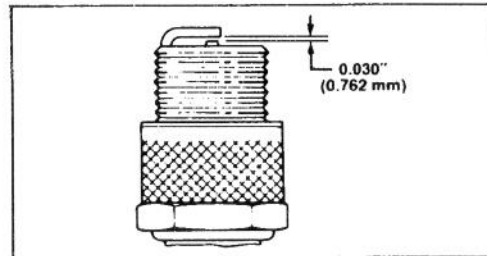

Figure 11
3. Set air gap at 0.030" (0.762 mm) (Fig. 11). Install correctly gapped spark plug and gasket seal. Tighten plug firmly to 15 ft-lb (20.4 N·m).